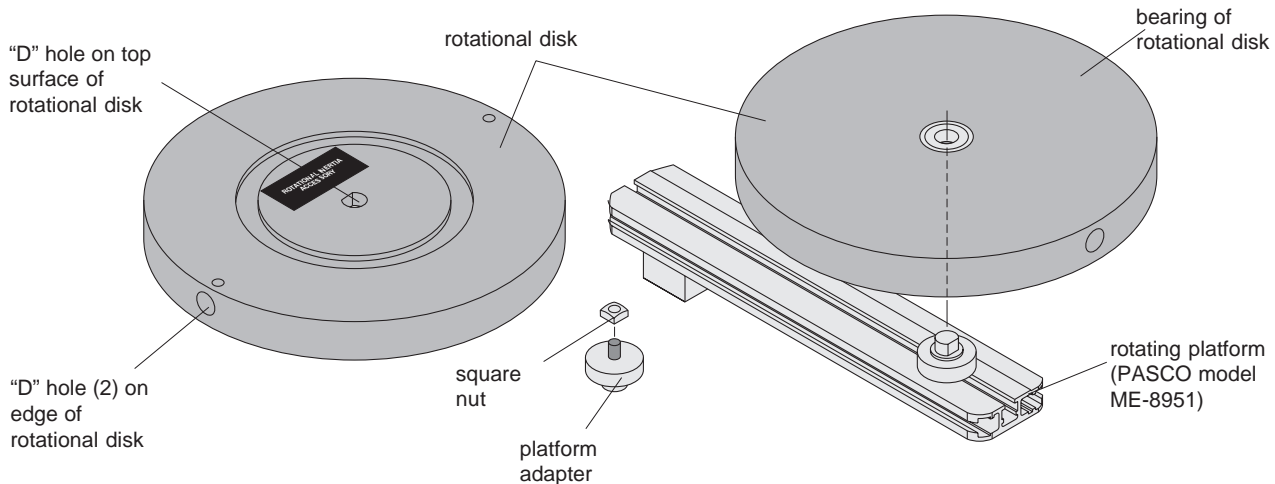

Figure 1: Rotational Inertia Accessory Including Platform Adapter Assembly
2. Position the platform adapter at the desired radius as shown in Figure 1.